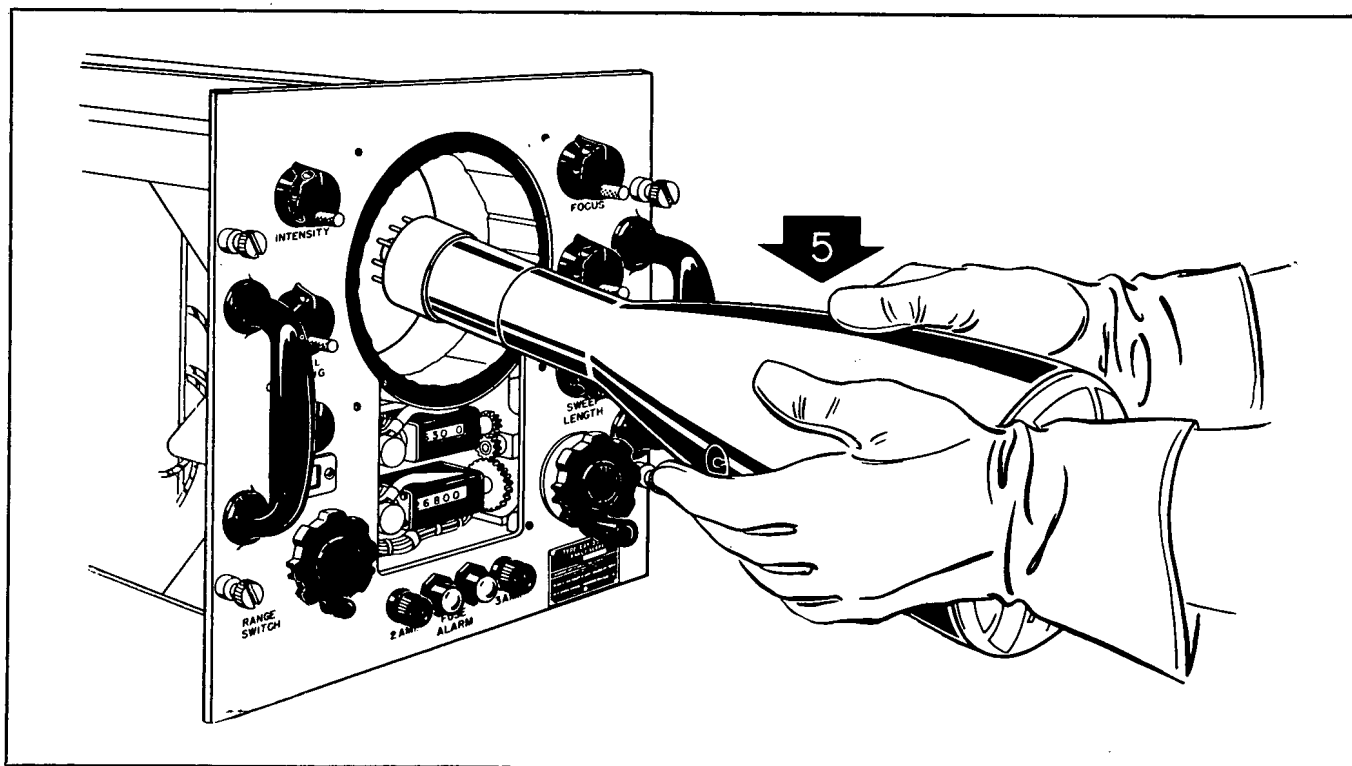

Figure 7-37. Removing Cathode Ray Tube from Range Scope
(7) When the tube has been pushed forward far enough to free it in the tube shield, use gloved hands to remove it as shown in Fig. 7-37.
(8) To install the new tube, insert it in the shield using the technique shown in Fig 7-37. Insert the tube just far enough to allow it to be connected.
(9) Turn the equipment on and observe the sweep on the tube. It should be perfectly horizontal. If it is not, turn off the equipment, remove and ground the high voltage lead and rotate the tube in the direction that will bring the sweep into a horizontal position. If the tube binds, push it forward out of the shield until it can be turned. **DO NOT PUT ANY STRESS OR STRAIN ON THE GLASS OR THE TUBE ENVELOPE WILL BREAK.** After the sweep has been properly positioned, the tube should be pushed back into its proper position. The proper